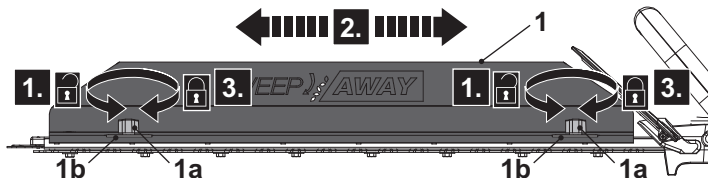

Fig. 6
**WARNING!** Wear safety gloves when working on the cutting device (blade) (13) and close to it! Never use your bare hands!
3. Loosen the locking knobs (1a) anti-clockwise from the nuts of the cutting device (blade) (13) by hand, but don't remove them (Fig. 6, step 1).
4. Slide the sweeper (1) along two slots (1b) to a desired position (Fig. 6, step 2).
5. Secure the connections with the locking knobs (1a) clockwise by hand (Fig. 6, step 3).